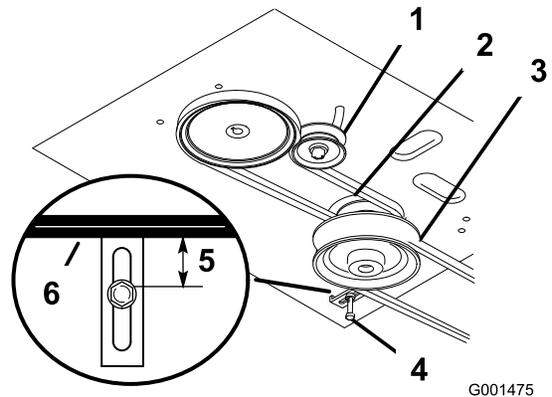

Figure 41
4. Remove the mower belt (Figure 41).
5. Loosen the pivot bolt enough to slide the idler pulley in the slot and remove the traction belt from the engine and the drive pulleys (Figure 41).
6. Install the new drive belt around the engine and the drive pulleys (Figure 41).
7. Slide the idler pulley in the engine frame to tension the traction belt (Figure 41).
8. Install the mower belt (Figure 41).
9. Check the belt guide under the engine frame for the proper adjustment (Figure 41).
13. Check the belt guide under the engine frame for the proper adjustment (Figure 41).